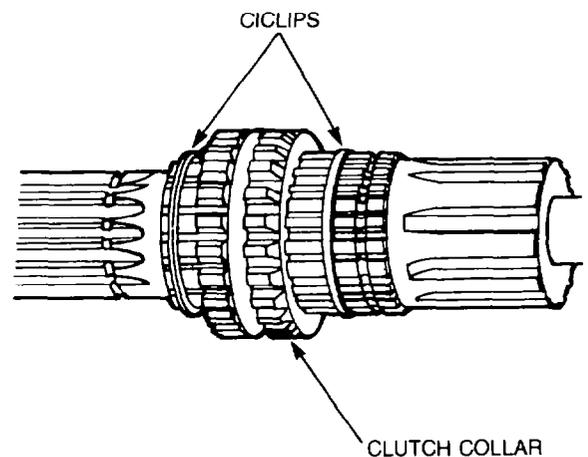

Figure 174 — Installing First/Reverse Clutch Collar
- d. Lubricate the mainshaft and the first/reverse clutch collar with transmission oil, then install the clutch collar into position on the mainshaft. Install two new circlips into grooves on the mainshaft to hold the clutch collar in position (see Fig. 174).